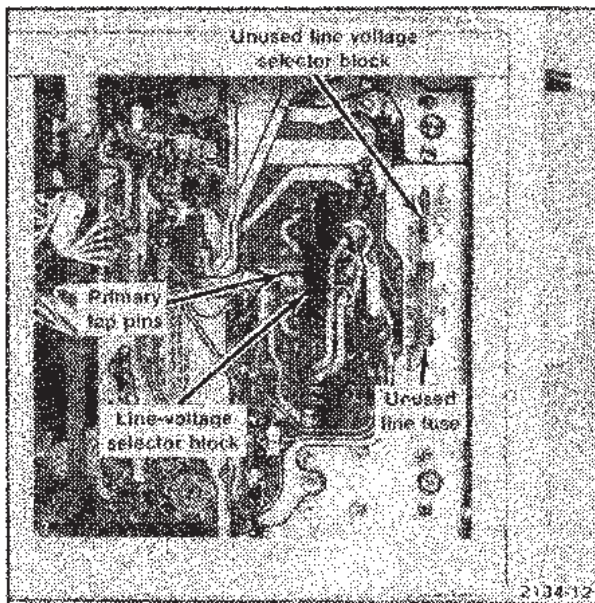

Fig. 4-1. Locations of the line-selector blocks on the LV Power Supply circuit board.
4. In the instrument, select the proper line-voltage selector block (see Fig. 4-1 for line-selector block locations). Select the brown block for 120-volt operation or select the red block for 240-volt operation. Install the block on the row of primary-tap pins noted from Table 4-2 in the previous step (either L, M, or H).
5. Install the unused block on the unused line-selector block pins (see Fig. 4-1 for pin location).
An unused line fuse, intended for the line-voltage source for which the oscilloscope was not set when shipped from the factory, is clipped to the LV Power Supply circuit board (see Fig. 4-1). Return the resultant unused fuse to the unused fuse clips.